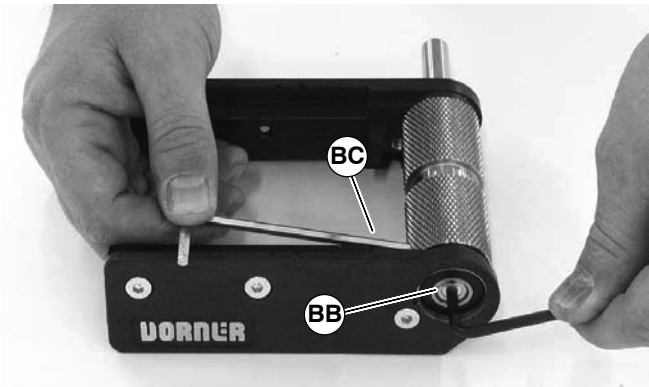

Figure 36
3. On side opposite of drive shaft, loosen pulley taper screw (BB of Figure 36) with 4mm hex-key wrench. Steady pulley with second hex-key wrench (BC) inserted into pulley hole.